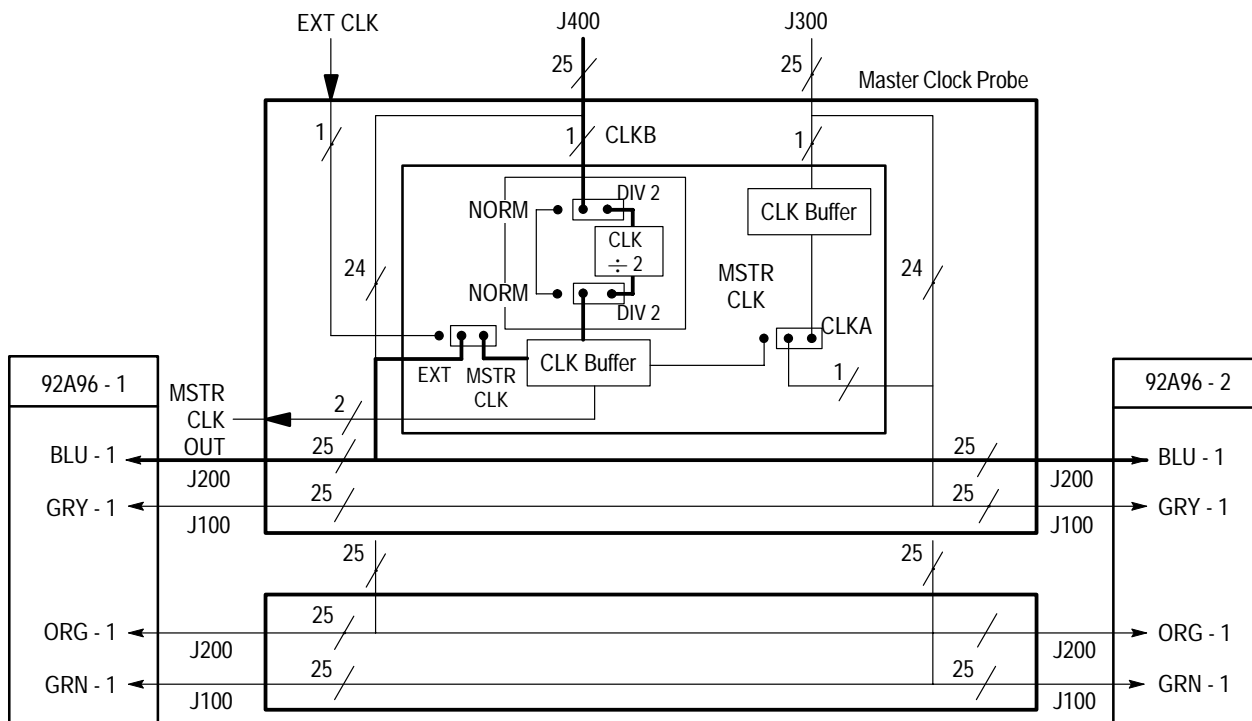
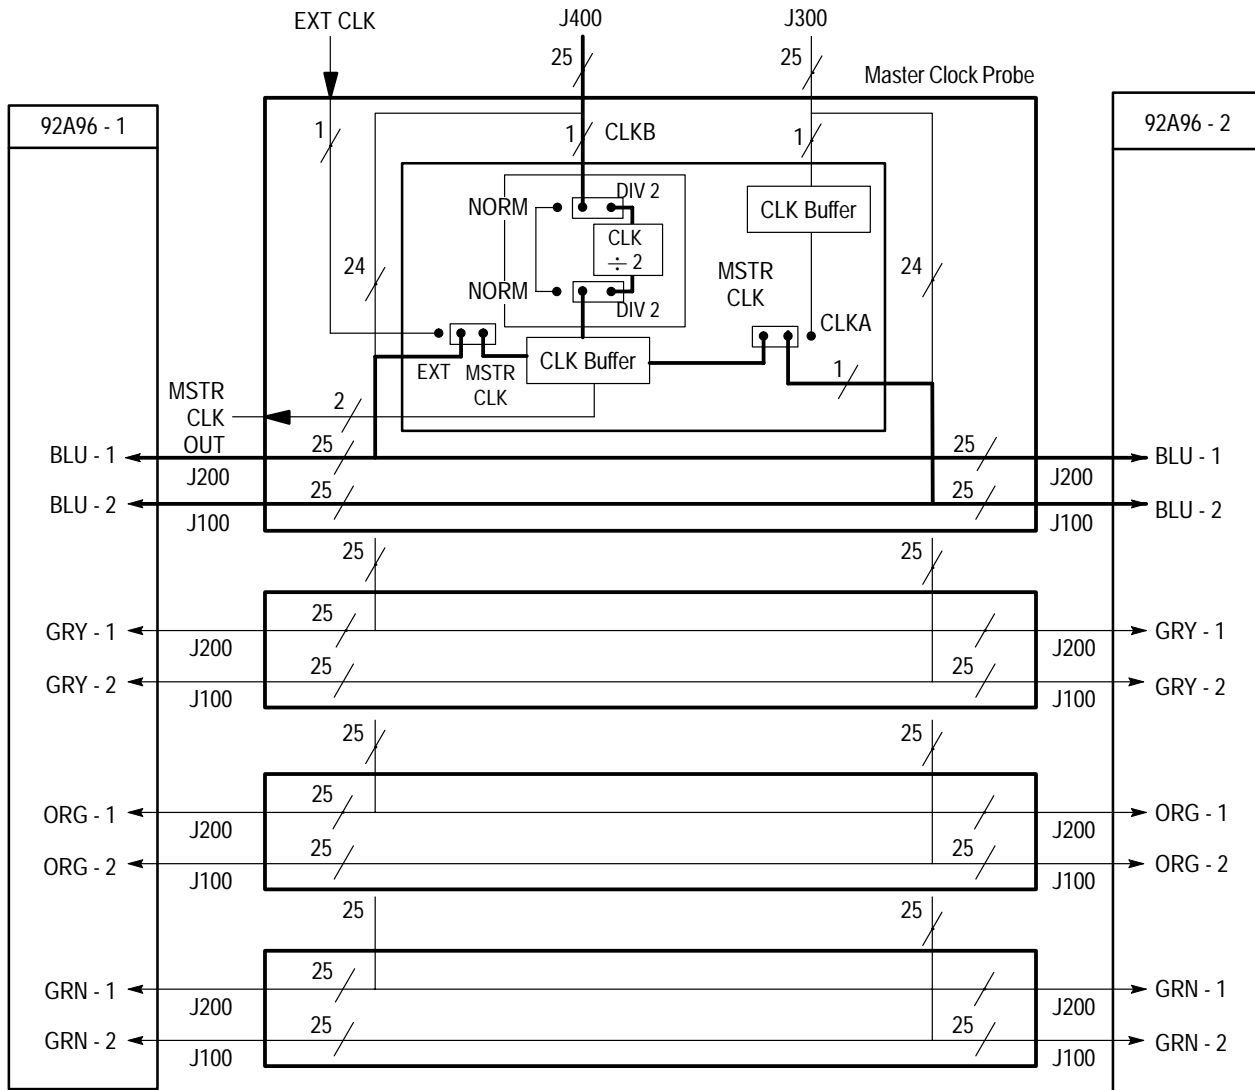

Figure 1: Probe Connections and Clock Jumpering for Two Single-Card Modules
Figure 2: Probe Connections and Clock Jumpering for Two Two-Card Modules
Before you use the P6467 probe you must determine the operating mode and the clocking requirements for your application. The clocking requirements depend on the number of cards in your 92C96 modules. You must specify one P6467 probe as the Master Clock probe and set the jumpers accordingly. Figures 1 through 3 show the clock jumpering and probe connections for two single-card modules, two two-card modules, and two three-card modules respectively. The clock signals are shown in bold in the illustrations. Table 1 on page 6 shows the jumper settings when the probe is shipped from the factory.
If you have the module configuration as shown in Figure 1, the position of the MSTR CLK/CLK A jumper can be in either the MSTR CLK or the CLK A position. However, the jumper must be in MSTR CLK position for the Master Clock probe in two- and three-card modules as shown in Figures 2 and 3.
4. Connect the P6467 Probes to the 92A96 Probe Cables; if necessary, refer to Figures 1 through 3 on pages 3 through 5 respectively.